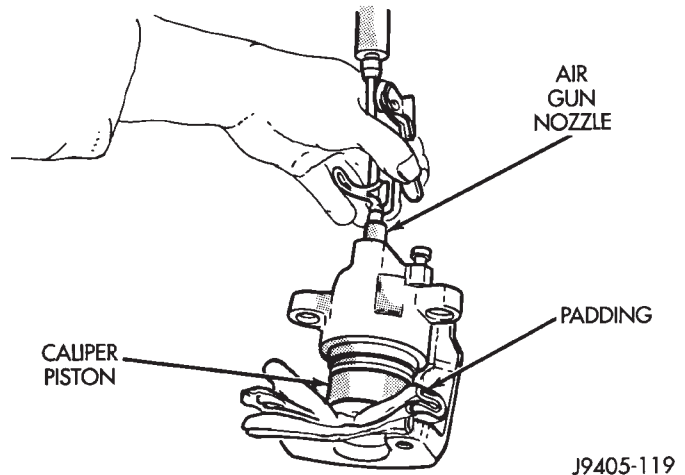

Fig. 76 Caliper Piston Removal
- (4) Remove caliper piston with **short bursts** of low pressure compressed air. Direct air through fluid inlet port and ease piston out of bore (Fig. 76).